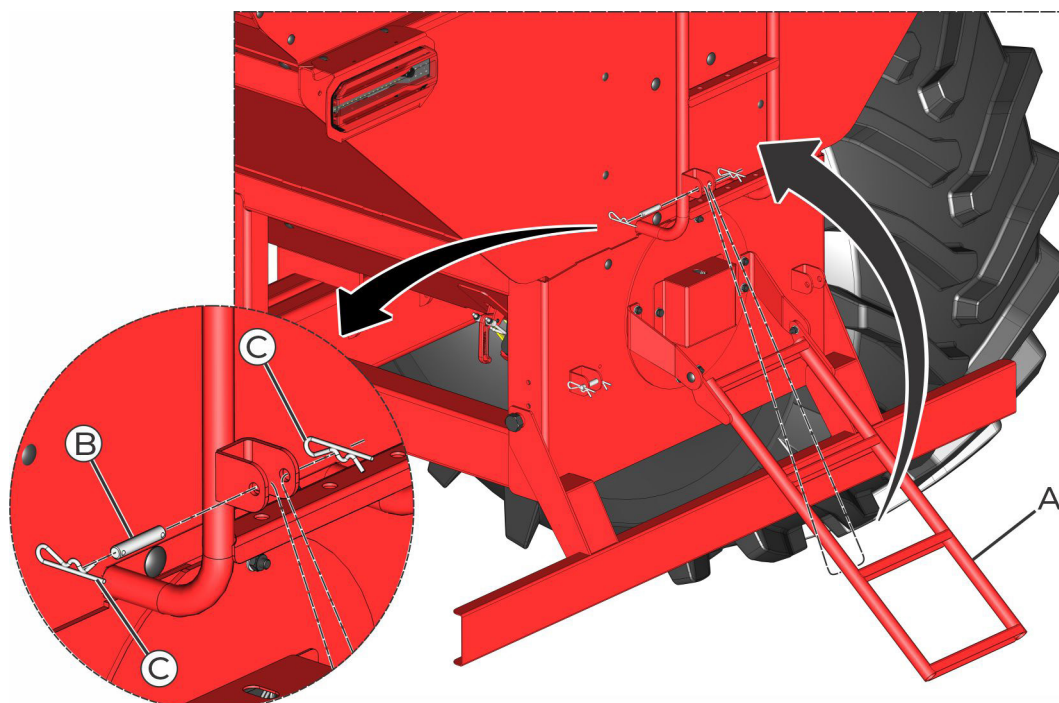

fig. 07
- 4- Bring the pipe close to the shaft bar until they are side by side, then check if there is a minimum slack of 2cm (fig. 07) at each end, if there is no slack, mark the pipe and the bar with a 2cm measure and cut them;
The external rear ladder (A) (fig. 07), must be opened only to climb on the upper part of the grain cart. During the remaining the time, it must remain folded and fixed through the pin (B) and the lock pin R (C).